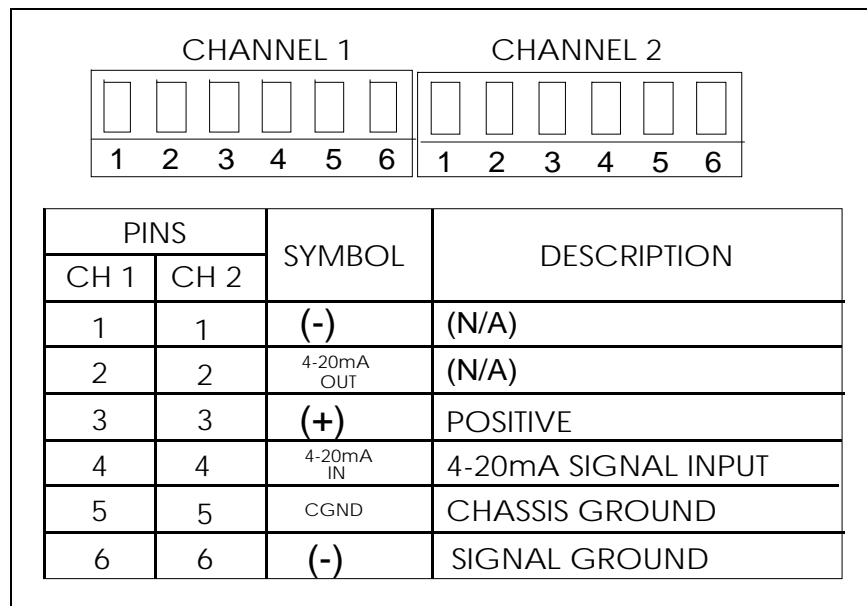

Figure 4-7 Signal Input/Output Terminal Block.
Connections from monitor to sensor/transmitter should be made using shielded, 2 or 3-conductor cable (depending on type of sensor/transmitter used). For best signal transmission and maximum noise rejection, run cable through steel conduit (cable shield must be grounded at the monitor). For basic selection of cable size and length (between monitor and sensor/transmitter), refer to the cable selection chart in the appropriate transmitter manual. The monitor's field power supply is 18-22 VDC. The configuration for each signal input is shown in Figure 4-7.
On the DSI board, the signal input/output terminal block (see Figure 3-2, item 16) allows two channel wiring for a remote 4-20mA sensor/transmitter input on each channel. Also, each channel has a 4-20mA signal follower output that is connected to the AMC-RAC. Figure 4-7 shows a detailed depiction of the signal input/output terminal block. The following sections detail the 2 wire, 3 wire transmitter, and building automation wiring.